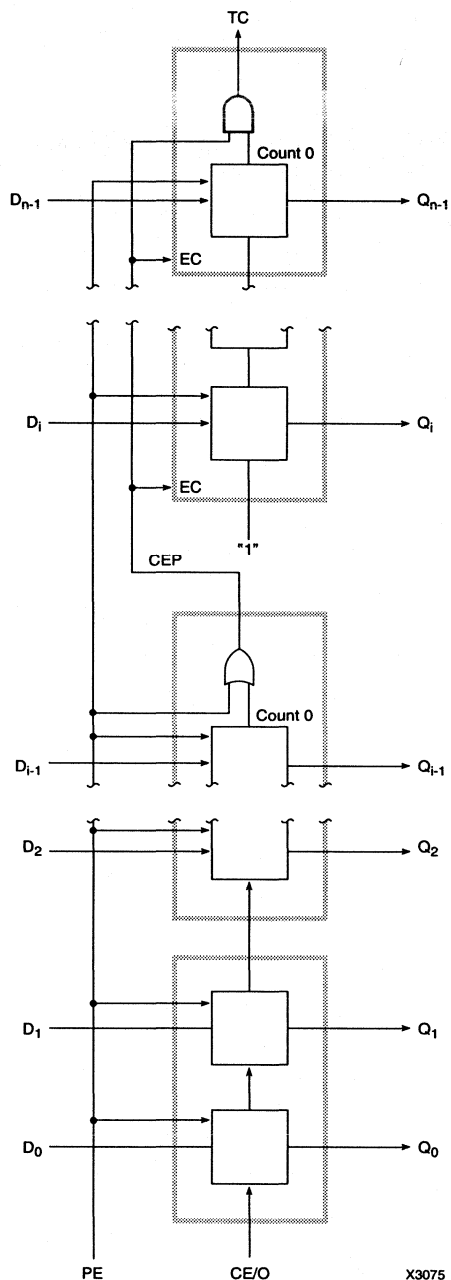

Figure 3. Long Accelerated Counter
Splitting the counter into odd-length sections, one function generator is available in each section. As shown in Figure 3, these function generators can be used to generate CEP and Terminal Count (TC). To permit this, they should be G function generators, and share CLBs with the MSBs of each section.